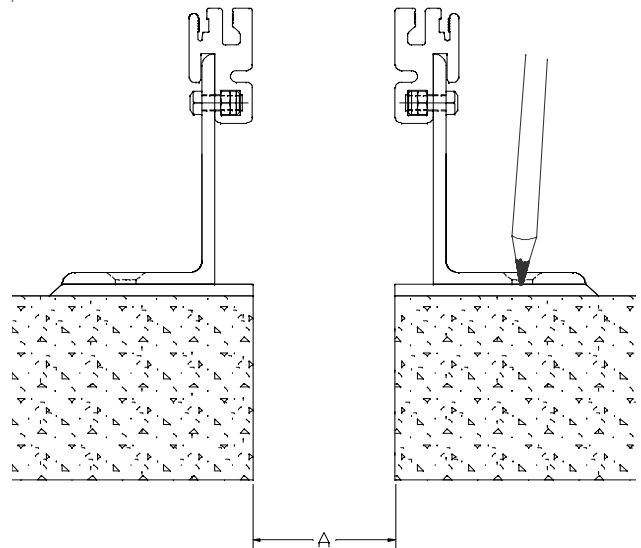

Figure 3
**STEP 4.** Select the Base Members and place them into their installed position along the joint. Ensure that the base members are straight, level and properly aligned. Using the Base Members as templates, mark the locations for the anchor holes on the leveling bed (see Figure 3). Remove the Base Members from their installed position and drill the anchor holes into the concrete at the marked locations.